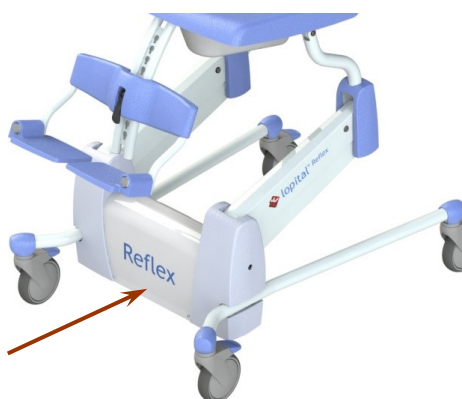

Figure 3 Cap
1. Put the chair in a high position. Unscrew screws (4x) and lift cover. (See figure 3)